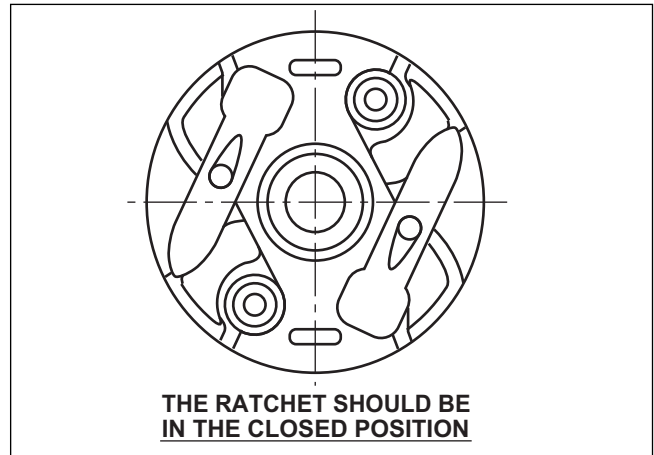

Fig. 14-5
(2) Mount the components
-1 Mount the ratchet into the reel. (Fig. 14-5)